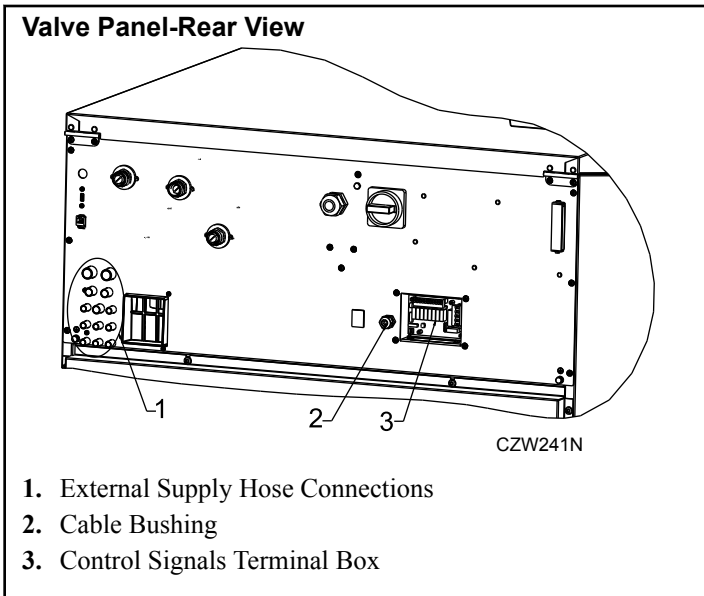

Figure 35
1. Facing the rear of the machine, locate the eight (8) 5/16 inch [8 mm] supply hose connections found on the left-hand side of the valve panel. Refer to *Figure 35*.
The electric connection for supply control signals (if used) is available on the rear panel. Refer to *Figure 35*. At the terminal box, there is a label for electric connection.
This function can be activated by an external contact which is connected between the pins and . Refer to *Figure 35*. Such